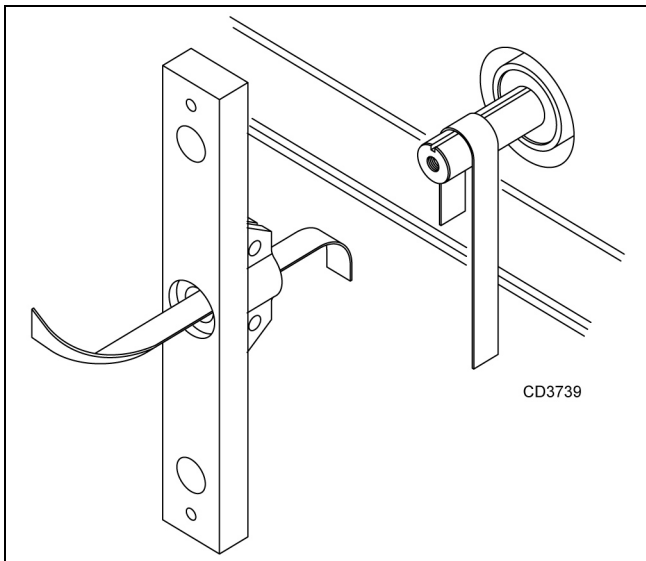

Figure 18
1. Using emery cloth (220 or finer), remove surface rust, Loctite® and foreign material from hub, splined gearbox, vertical shaft, and crossbar as shown in Figure 18.